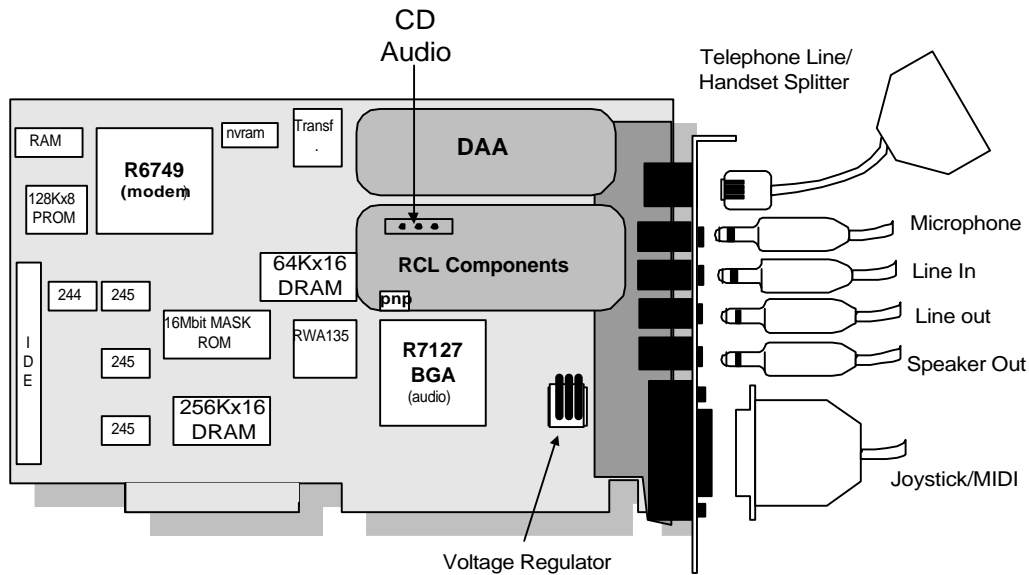
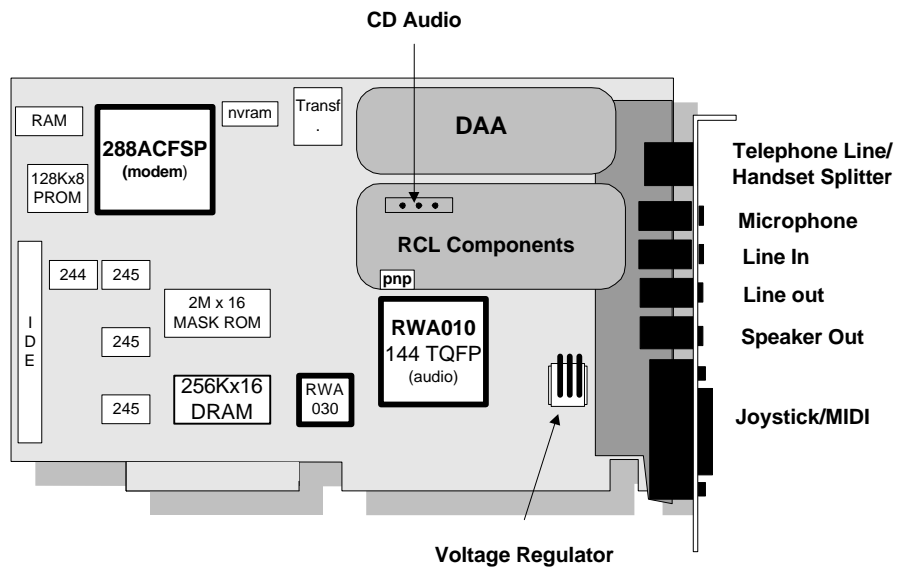
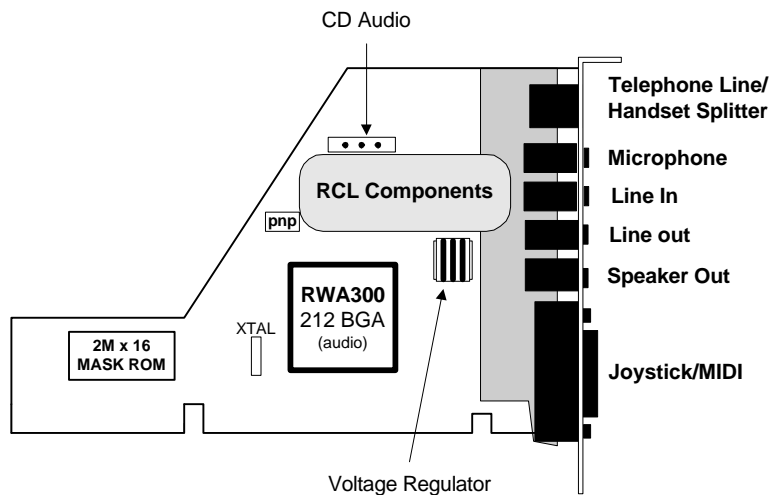
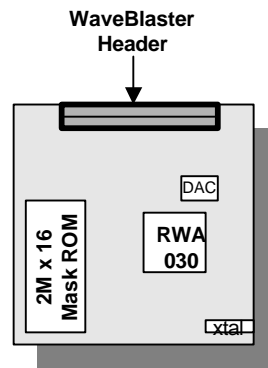

Figure 1. AK28-D640, AK34-D220, AK34-D230 and AK34-D240 General Layout and Interface Connections
Figure 2. TJ56-D680, AK28-D680, AK34-D160, AK34-D170 and AK34-D180 General Layout and Interface Connections
Figure 3. AK30-D100 General Layout and Interface Connections
Figure 4. AK30-D130 General Layout and Interface Connections
Typical WaveArtist reference boards are illustrated in Figure 1 for AK28-D640, AK34-D220, AK34-D230 and AK34-D240), Figure 2 (TJ56-D680, AK28-D680, AK34-D160, AK34-D170 and AK34-D180), Figure 3 (AK30-D100), and Figure 4 (AK30-D130).
2. Connect the audio cable from the CD-ROM drive to the 4-pin CD audio input connector on the WaveArtist board (see Figure 1).